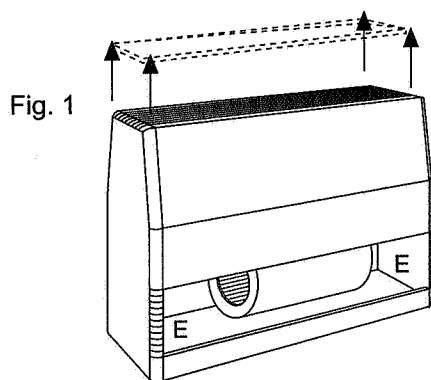

Fig. 1
* Push return airgrill "B" up and pull out. (Fig. 1,2,3).
- 1.- Remove decorative panel (Fig. 1).